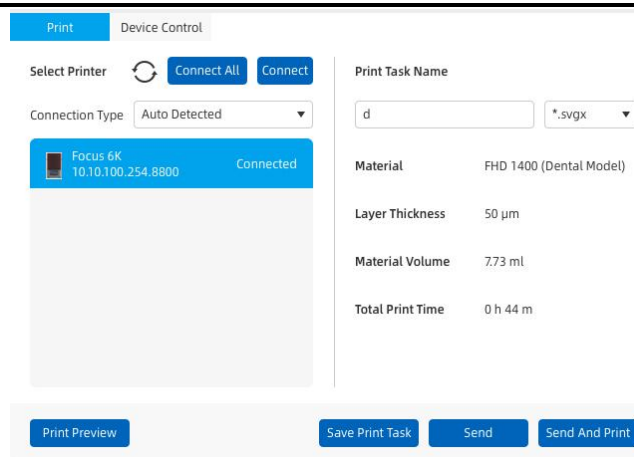

Figure 27 Interface diagram of successful connection
- Click [Connect], the connected machine and ITS IP address appear under the connection mode, as shown in Figure 27, indicating that the machine has been successfully connected.